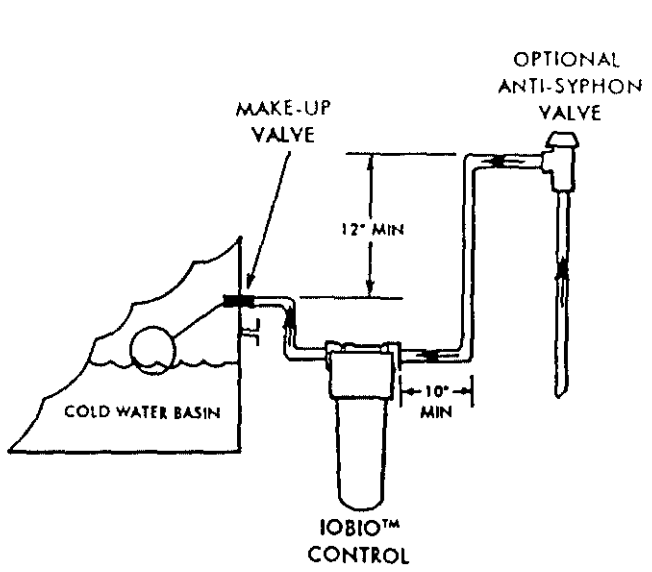
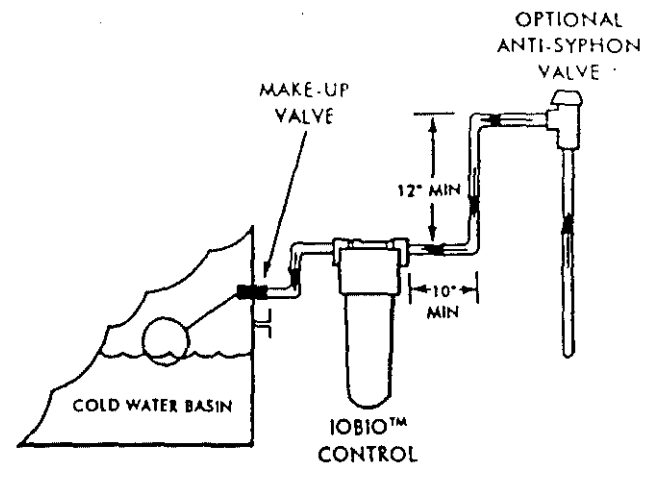

Figure 2A
Figure 2B
4. Locate a spot to mount the anti-syphon valve (if required), allowing a minimum valve elevation of 12 inches from the connections into the evaporative cooling equipment (Figure 2A) or the top of the IOBIO™ housing (Figure 2B), whichever is higher. The vertical dimensions are required for correct functioning of the anti-syphon valve. Whether or not the anti-syphon valve is installed a minimum, straight run of pipe upstream of the IOBIO™ Control must be provided for correct functioning of the device.